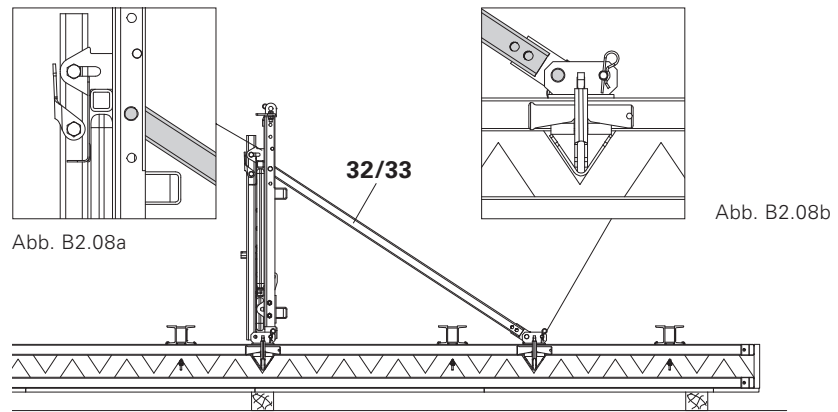

Fig. B2.08
5. Insert splice in top drilled hole of the platform connector. (Fig. B2.08 + B2.08a + B2.08b)